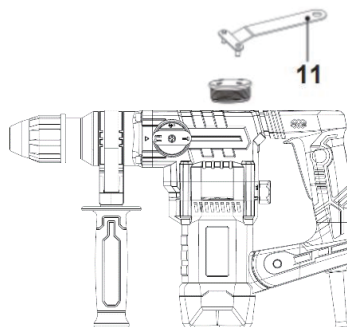

Fig.15
Unscrew the gearbox cover with the wrench (11) and remove it (Fig. 15).